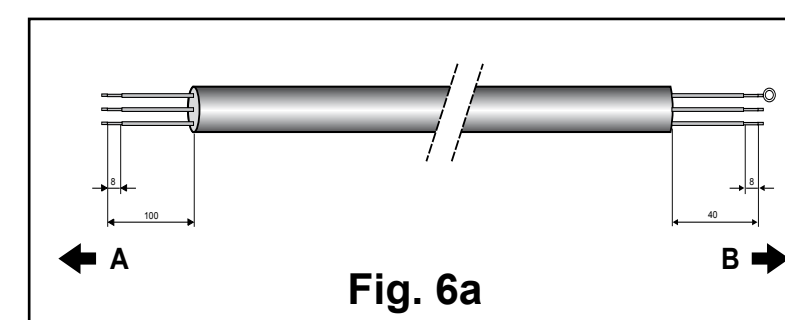

Fig. 6a
- Prepare the cable ends for the power input and for the cables between outdoor and indoor units as shown in figure 6a and 6b respectively.